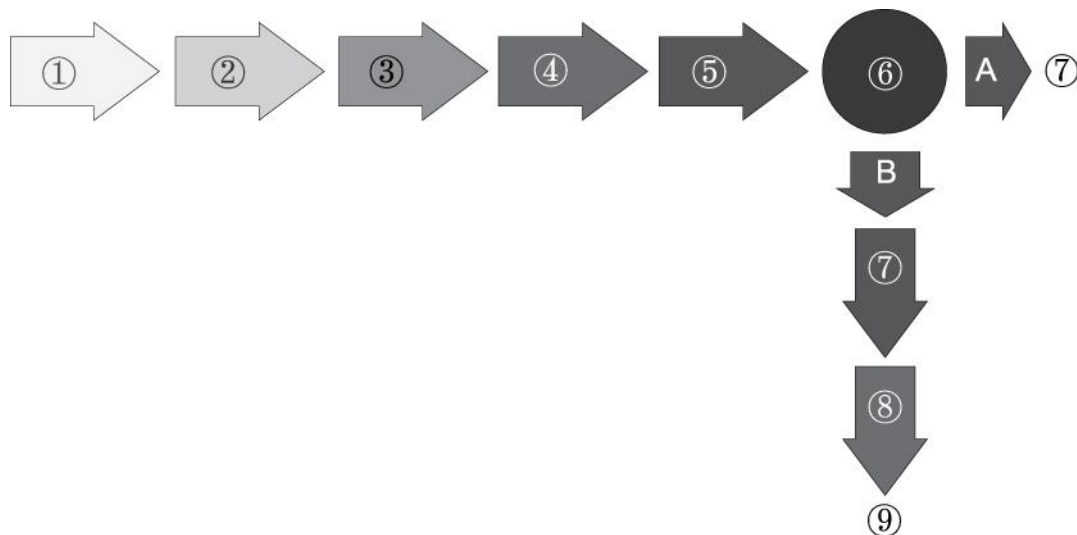

Fig. 2-1 Simulated Schematic Diagram of Receiving Process
Fig. 2-1 below is a simulated schematic diagram of receiving process. See this section for details of each step.
In Fig. 2-1: ① - product arrival;
② - external inspection;
③ - transportation;
④ - unpacking;
⑤ - internal inspection;
⑥ - acceptance;